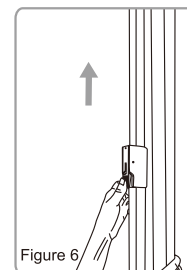

Figure 6
3. Press the button to adjust the height of the screen. (Figure 6)